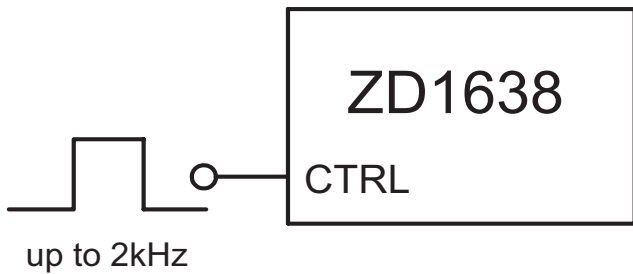

Fig.4. PWM dimming using the CTRL pin
(1) Adding a Control Signal to CTRL Pin Adding a PWM Signal to CTRL pin directly. The ZD1638 is turned on or off by the PWM signal when it is applied on the CTRL pin. The typical frequency of this PWM signal can be up to 2kHz. Please refer to Figure 4.